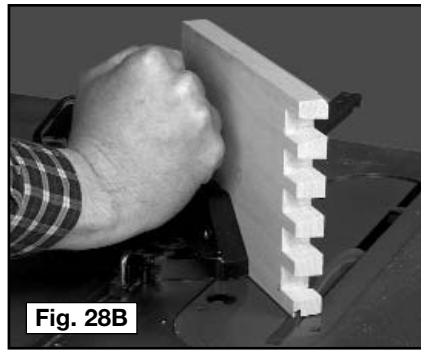

Fig. 28B
Step 2 - Use a table saw with the miter gauge set to 45° to miter the squared-off half pin (Figs. 28B and 28C).